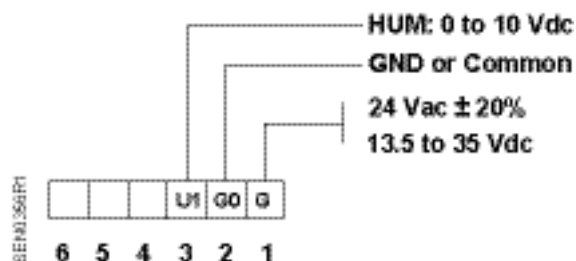

Figure 3. Rh Sensors, 0 to 10 Vdc.
5. Connect the field wiring to the sensor terminal block on the base. See Figures 3 through 7 for wiring diagrams.